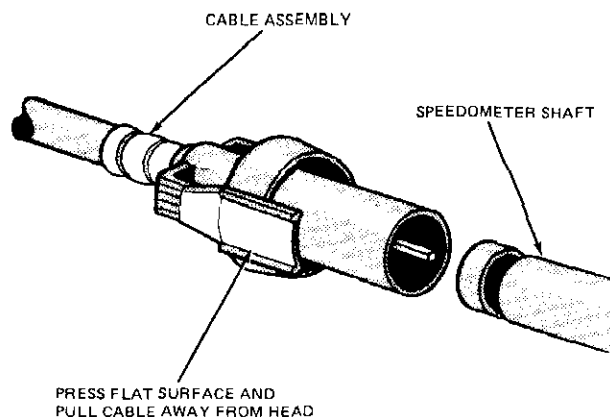

FIG. 1 Speedometer Cable Quick Connect
2. Remove the instrument cluster as outlined in Part 33-50. Disconnect speedometer cable (Fig. 1).
2. Remove the instrument cluster assembly as outlined in Part 33-50. Disconnect the speedometer cable (Fig. 1).
2. Remove the instrument cluster assembly as outlined in Part 33-50. Remove the clock knob and speedometer cable (Fig. 1).